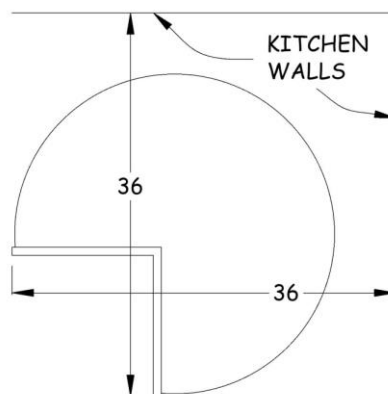

Figure 17-3. Corner Cabinet Installation
4. Set the corner carousel unit in place with the faces 36" from each wall as shown in Figure 17-3.